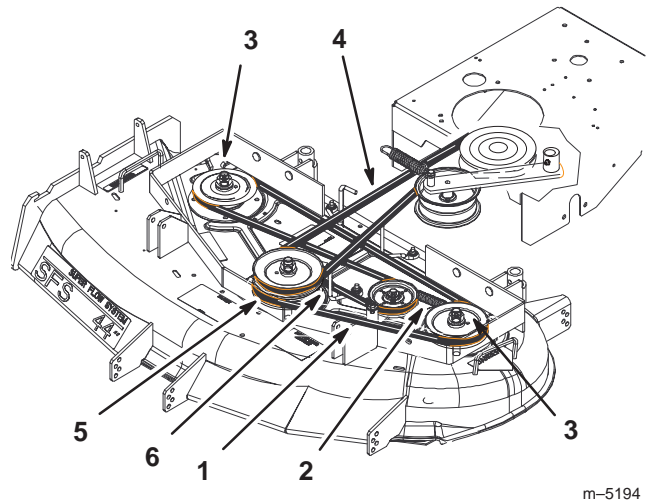

Figure 58
5. Disconnect the idler arm spring to relieve tension on the idler arm and idler pulley, then remove the worn deck belt (Fig. 58).
6. Install the new deck belt around the two outside spindle pulleys, the idler pulley, and in the lower groove of the center spindle pulley (Fig. 58).
7. Connect the idler arm spring (Fig. 58).
8. Adjust deck belt guide an 1/8 in. (3 mm) from belt (Fig. 58).